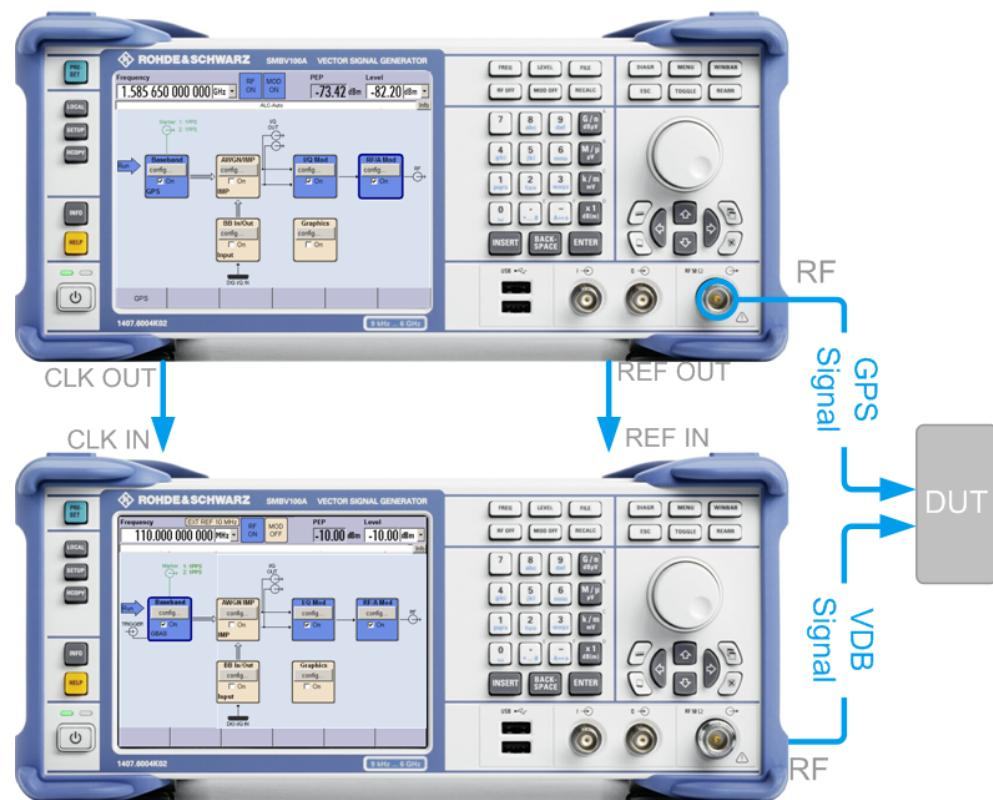

Figure 9-1: Example of test setup
- Connect the instruments to work in master-slave mode, see Figure 9-1.